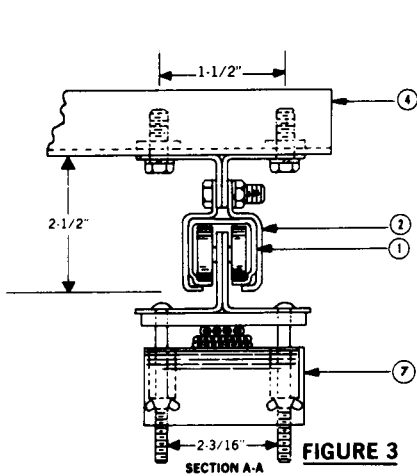

FIGURE 80
7. Insert trolley/saddle assemblies into the track. Refer to Figure 80. All trolleys should be manually operated through the entire length of track to verify that trolleys do not bind or hang up. Align track as required; or replace any trolleys that do not operate freely within the track.
9. Feed the flat cables into trolleys between the plastic clamp pad and the saddle as shown in Figures 80 and 81. Firmly finger tighten the wing nuts.